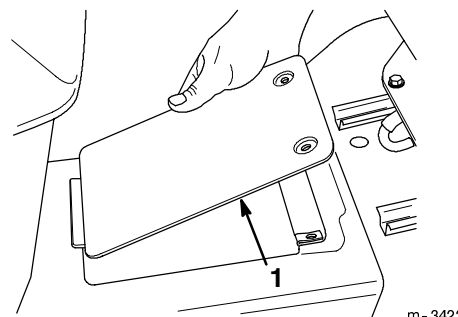

Figure 31
- Open the drive shaft maintenance cover on the tractor tunnel near the seat by unscrewing the two screws securing it, then raising it (Fig. 31).